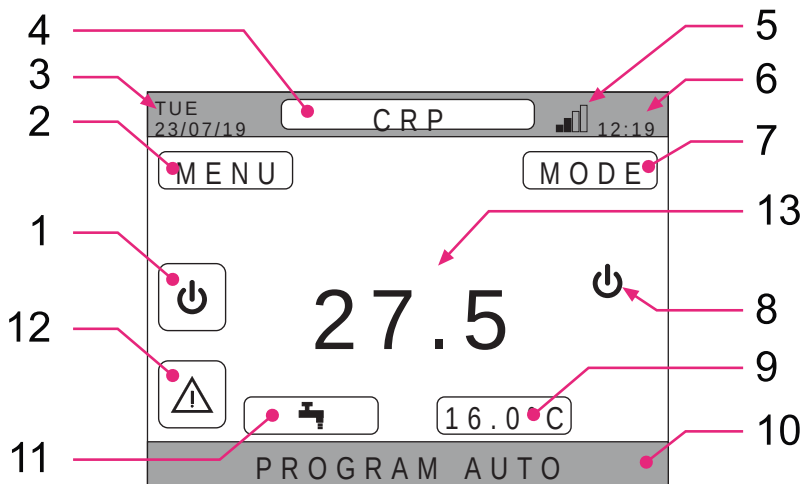

fig. 21 - Main screen
Press the ✓ button in the “System” active area (ref. 1 - fig. 21) to access the menu for changing the system operating mode and activate or deactivate “DHW production” (DHW menu).
Press the ✓ button in the “MENU” active area (ref. 2 - fig. 21) to view some system information and to change some of its settings.
By repeatedly pressing the button ✓ in the active area “Selected zone/Zone change” (ref. 4 - fig. 21) it is possible to go to the zone to monitor or change the settings. The change occurs cyclically in all the configured zones.
Press the ✓ button in the “Ambient set point” active area (ref. 9 - fig. 21) to change the ambient set point value for the selected zone.